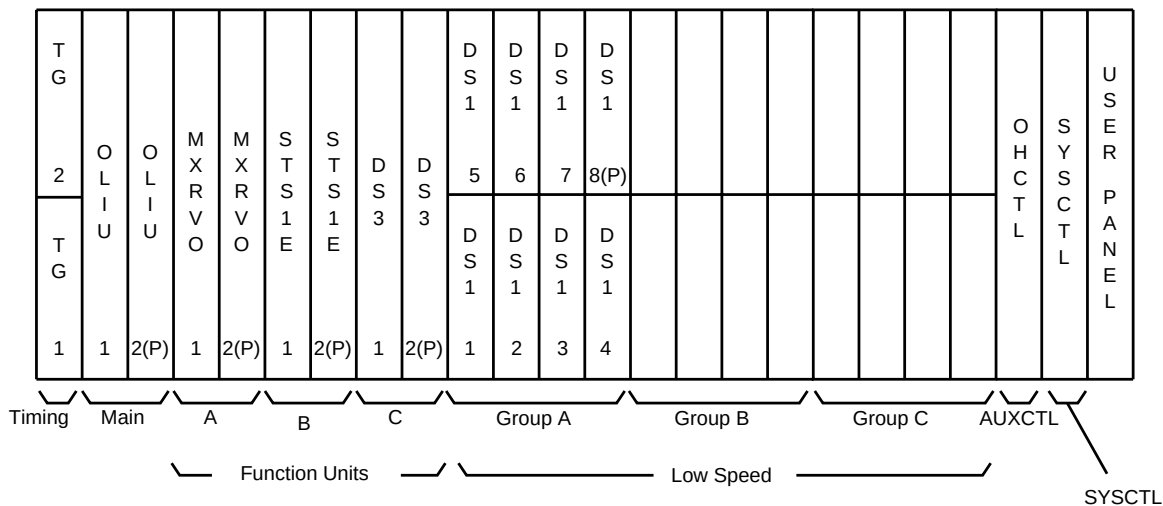

Figure 3-4. DDM-2000 OC-3 Terminating Shelf
Figure 3-4 shows an example of the OC-3 terminating shelf, used for point-to-point network applications and as the central office (CO) terminal of multispan loop access applications. The OC-3 terminating shelf uses the two main OLIU slots to interface an OC-3 line to three function unit positions (A, B, C). Function unit and OLIU circuit packs are equipped in protection pairs, one service and one protection (denoted 1 and 2[P]). Low-speed interface growth proceeds in STS-1 increments at the function unit slots. A DS3 interface is provided by the DS3 circuit pack (shown in slot C); an EC-1 interface is provided by the STS1E circuit pack in slot B, while DS1 services use the MXRVO function unit circuit pack. DS1 service growth proceeds in increments of four DS1s by equipping low-speed slots with DS1 or DS1PM circuit packs up to a maximum of seven service units and one protection unit per Multiplexer. Thus, each protected 28 DS1 "muldem" requires two MXRVO and eight DS1/DS1PM circuit packs. If DS1PM service circuit packs are equipped, the protection slot must also be equipped with a DS1PM circuit pack. Also, two MXRVO circuit packs (service and protection) must always be equipped whenever DS1PM circuit packs are equipped in the associated low-speed group. Also, two MXRVO circuit packs (service and protection) must always be equipped whenever DS1PM circuit packs are equipped in the associated low-speed group.